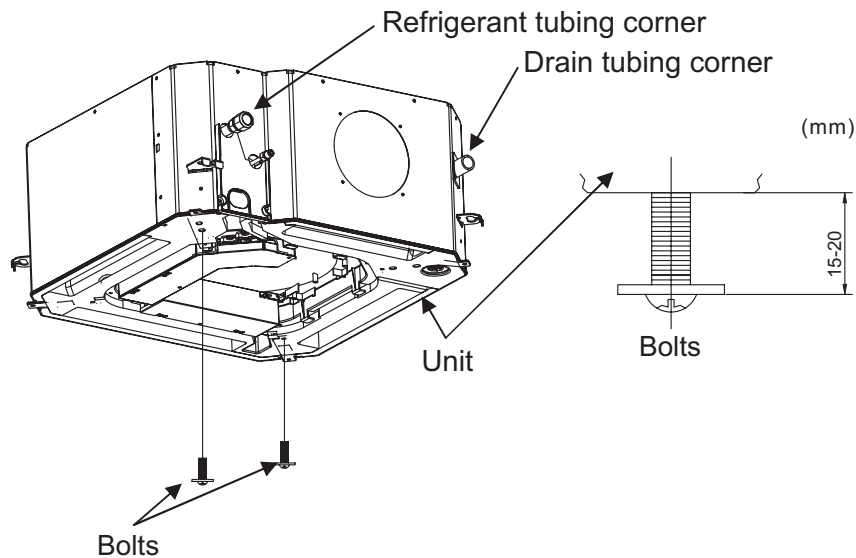

Fig.24
1. Install two bolts (Accessory) onto the main unit (the corner of refrigerant tubing side and the opposite corner).The detail is shown in Fig.24. Pay attention that leave 15-20mm bolt unscrewed so as to hang the panel easily